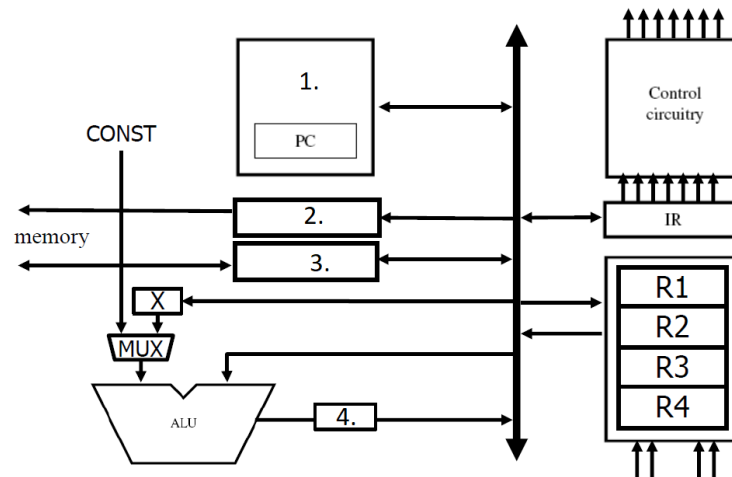

Figure 1: Basic Processing Unit with missing components.
- (5 mins) Figure 1 shows the components of a CISC-style basic processing unit. Name the numbered components and describe what kind of information is stored in them.